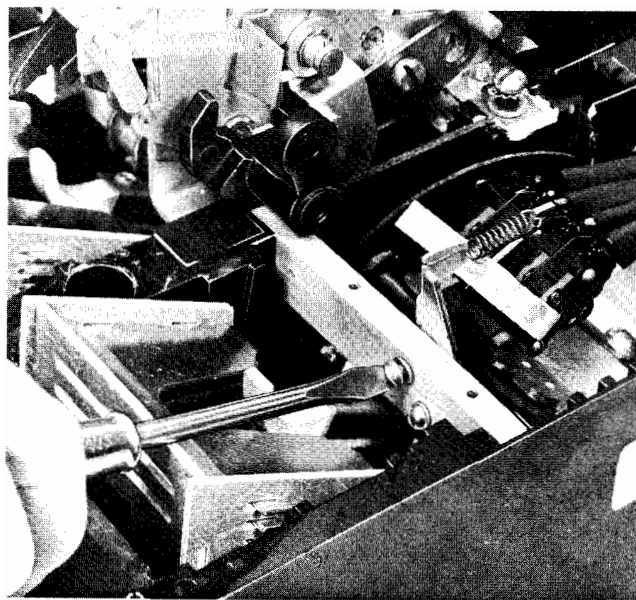

Figure 27.
3. Mount cut-off switch by first depressing the switch actuator. Align tapped holes in switch bracket with holes in arm stop (left pole) and secure with No. 8×9/16 screws and lock washer. (Tighten to 23 inch pounds, see Fig. 27).